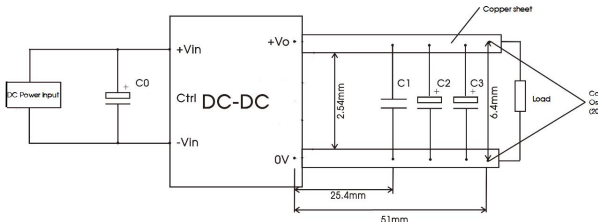

Fig. 3
② The ripple & noise is tested in accordance with Design Reference Fig. 3, 4000μF/16V(300 μ F MLCC+3700 μ F Oscon);
③④ ΔT_3 and ΔT_4 see the picture below;